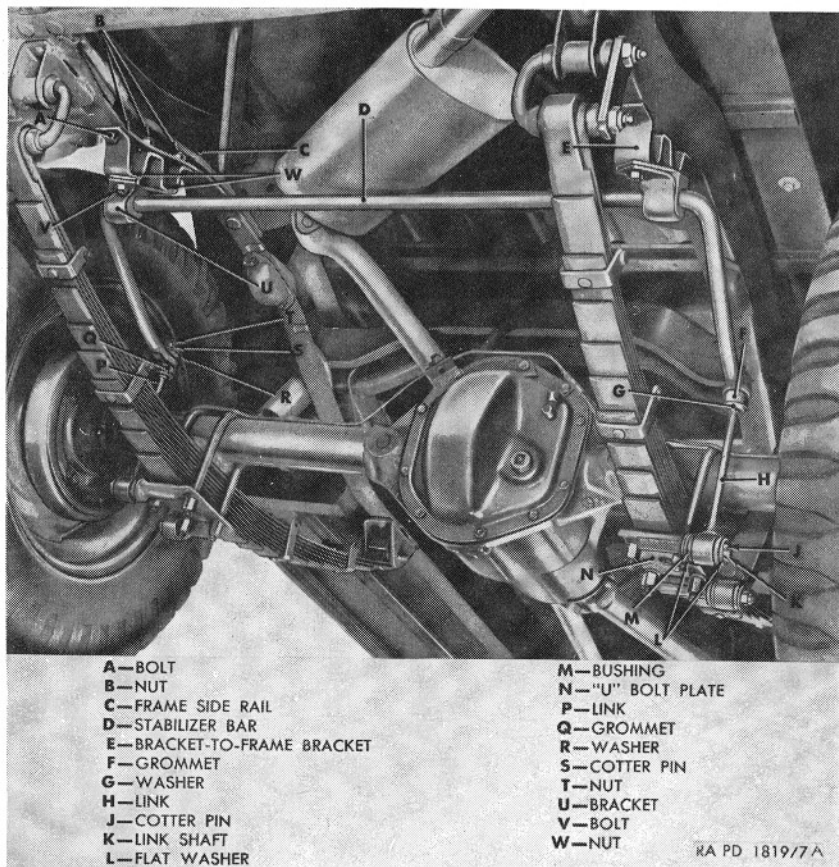
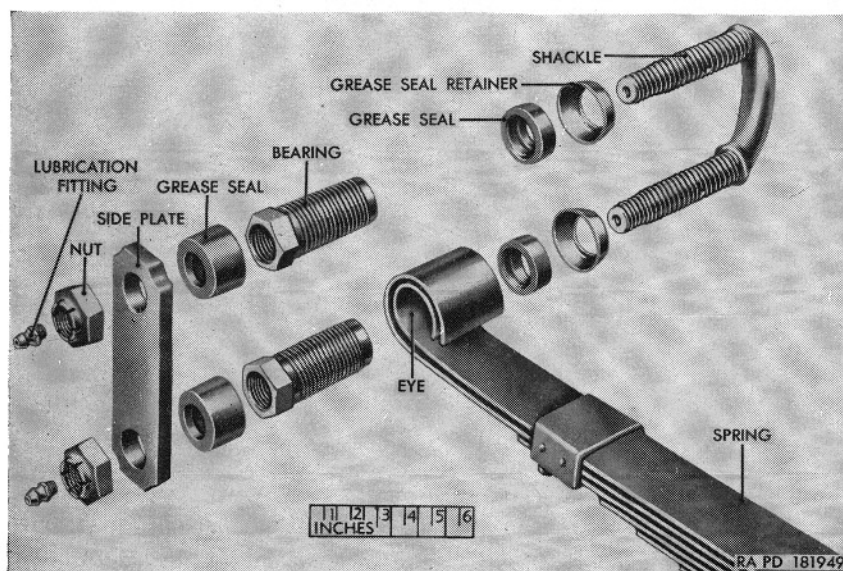

Figure 40.1 Stabilizer bar, brackets, and link M170—rear.
Figure 41.1. (Added) Spring shackle and spring shackle end of spring M170—exploded view.
Note. The key letters noted in parentheses are in figure 40.1.
a. *Spring Shackles Removal* (fig. 41.1).
c. Spring Shackle Installation (fig. 41.1).
- (1) Slip a grease seal retainer and a grease seal in the order named over each of the threaded parts of the shackle. Start the small inside diameter of the retainers on the shackle.
- (2) Insert the ends of the shackle into the inner side of the spring assembly and the inner side of the frame rail (for front spring) or the spring bracket (for rear spring), and push the shackle in until the ends are almost protruding from the spring eye and frame side rail or spring bracket.
- (3) Insert the bushing-type shackle bearings into the spring eye and frame side rail or bracket, and start the bearings onto the shackle before the bearings start threading into the eye or frame side rail or spring bracket. Take up on both bearings equally until they are tight. Back off the lower bearing about one thirty-second of an inch ($\frac{1}{3}$ of a turn).
- (4) Place a grease seal over the hex-head of each bearing. Slide the side plate over the ends of the shackle and secure with two nuts. Install the lubrication fittings in the end of the shackle.
- (5) Raise the axle assembly with the jack until the upper end of the link (H or P, fig. 40.1) between the U-bolt plate and the stabilizer bar (D, fig. 40.1) enters the hole in the end of the bar. Install a grommet (Q, fig. 40.1) and a washer (R, fig. 40.1) over the end of the link. Secure the link, grommet, and washer to the bar with a nut (T, fig. 40.1) and cotter pin (S, fig. 40.1).